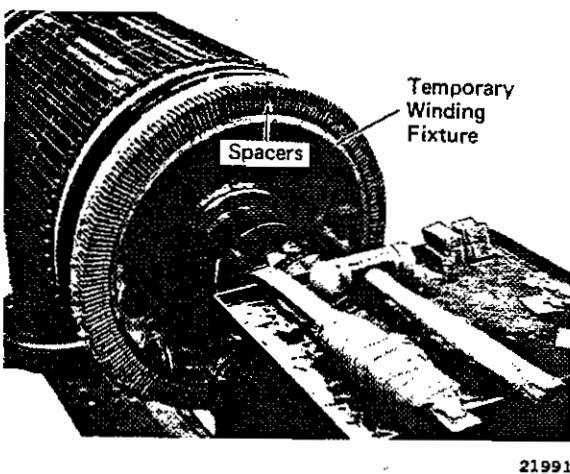

Fig. 54 - Mica Spacers in Position
3. Insulate between the coil clips with mica spacers as shown in Fig. 54. Use mica filler as required to make spacer fit snug. Mica filler when used is to be flush with the top of the mica spacer.